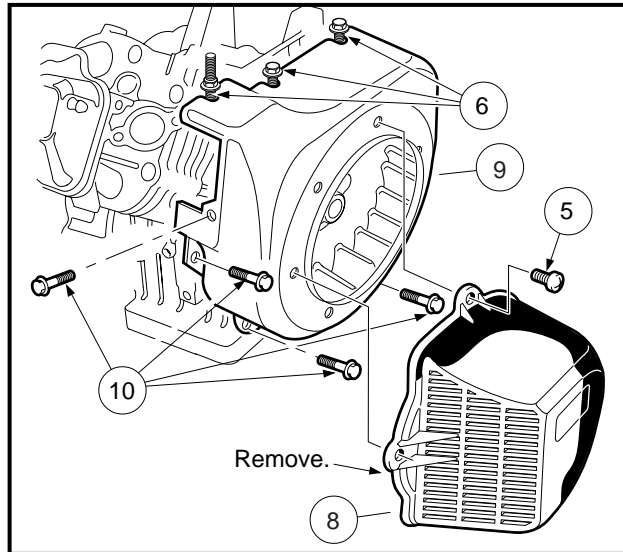
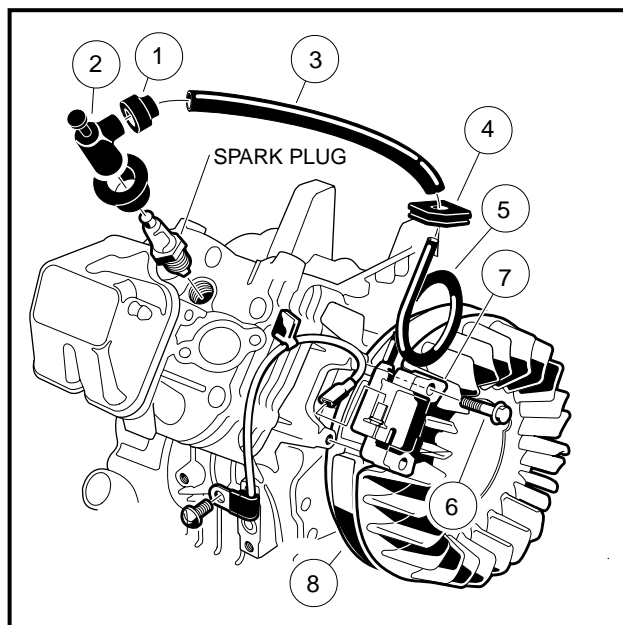

Figure 12-26 Remove Fan Housing
Figure 12-28 Clean Grommet
6. Remove the pan head bolts (5) securing the fan shroud (8) to the fan housing (9) (**Figure 12-26, Page 12-26**).
7. Loosen but do not remove three bolts (6) attaching the fan housing as shown.
8. Remove the remaining four bolts (10) attaching the fan housing as shown (**Figure 12-26, Page 12-26**), then while opening the housing, detach the spark plug wire grommet (4) from the housing (**Figure 12-28, Page 12-26**).
1. Remove the rubber gasket (1) on the plug cap (2) by rolling back the gasket onto the spark plug wire.
2. Remove the cap (2) from the wire by turning the cap counterclockwise three or four revolutions while gently pulling it off the wire (**Figure 12-28, Page 12-26**).
3. Remove the gasket (1) and protector tube (3) from the old coil.
14. Install the four remaining flange bolts that secure the fan housing to the engine crankcase. Tighten all seven mounting bolts to 90 in-lb (10.2 N·m) (**Figure 12-26, Page 12-26**).
16. Install the fan shroud with four pan head bolts. Tighten the hardware to 50 in-lb (5.7 N·m) (**Figure 12-26, Page 12-26**).